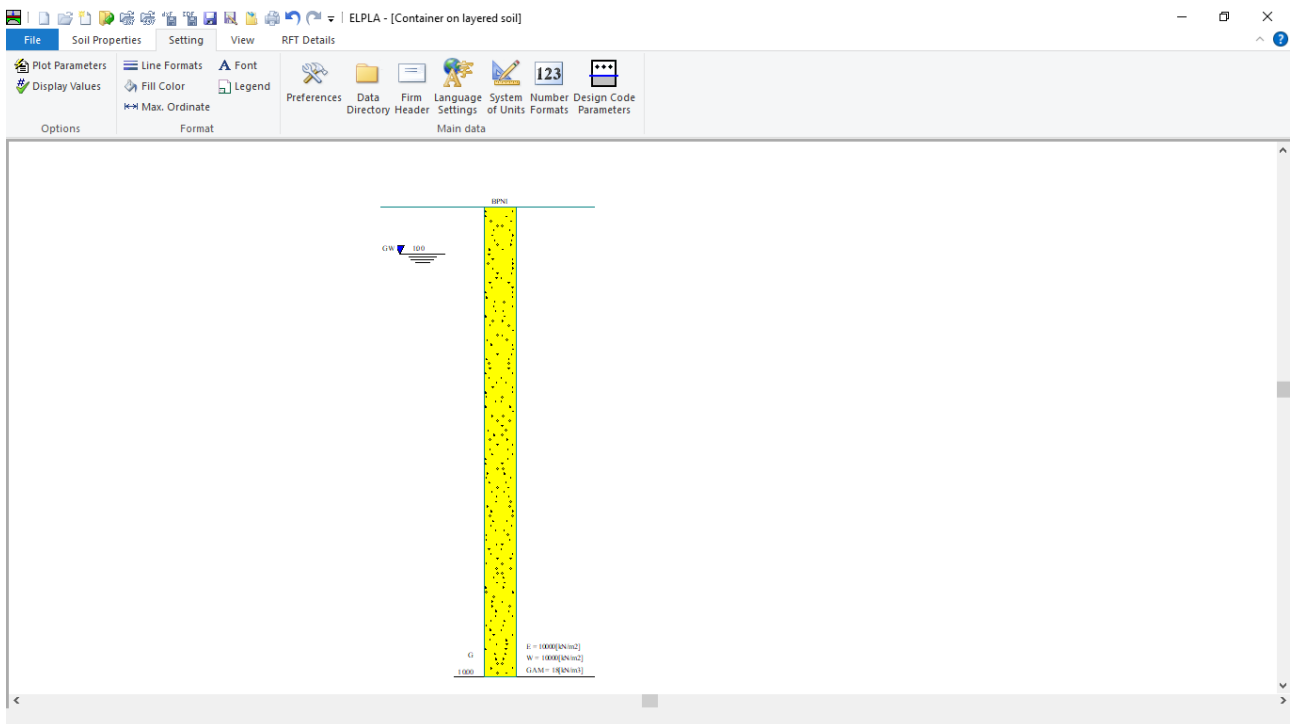
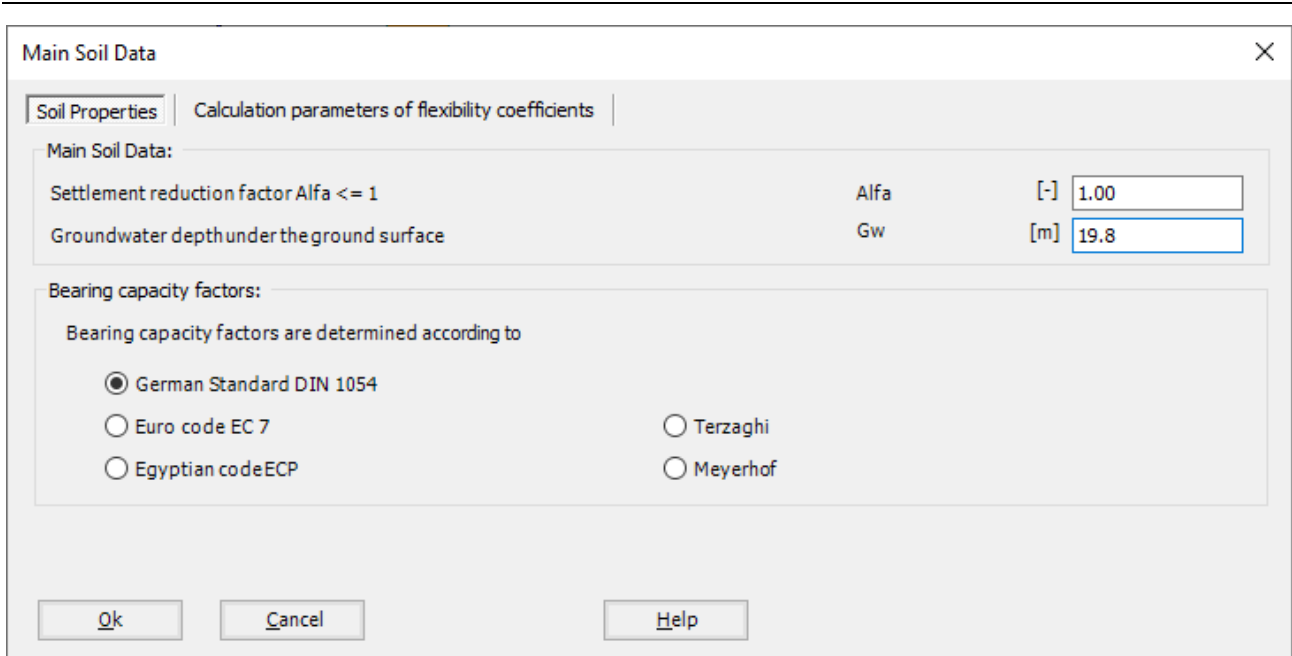

Figure 12.12 "Soil Properties" window with a default-boring log
Figure 12.15 "Main Soil Data" dialog box
To define the soil properties, choose "Soil Properties" command from "Data" Tab. The following "Soil Properties" Window in Figure 12.12 appears with a default-boring log.
In Figure 12.12, soil properties are defined through the "Data" menu, which contains the following two commands:
- Choose "Soil Data" command from "Data" menu in the window of Figure 12.12
To enter the main soil data for all layers, choose "Main Soil Data" command from "Data" menu in Figure 12.12. The following dialog box in Figure 12.15 appears with default main soil data. The main soil data for the current example, which are required to be defined, are the settlement reduction factor α [-] and the groundwater depth under the ground surface G_w [m]. Any other data corresponding to main soil data are not required in this example. Therefore, the user can take these data from the default soil properties.
In the dialog box of Figure 12.15, enter the settlement reduction factor α [-] and the groundwater depth under the ground surface G_w [m]. Then click "OK" button.
- Choose "Save" command from "File" menu in Figure 12.12 to save the data of boring log
- Choose "Close" command from "File" menu in Figure 12.12 to close "Soil properties window and return to *ELPLA* main window.